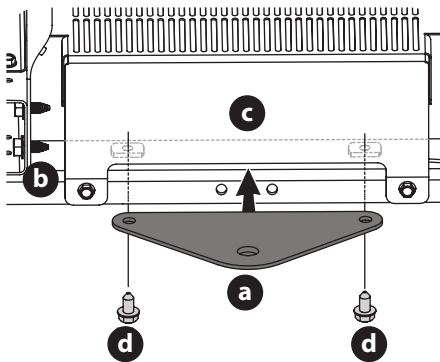

Figure 14
1. Slide the hitch plate (a) in between the frame (b) and the rear cover (c) on your riding mower (Figure 14).
2. When the holes in the hitch plate (a) and the frame (b) are aligned, install the two hex screws (d) up through the frame (b) and into the hitch plate (a) (Figure 14).
3. Securely tighten the hex screws (d) (Figure 14).